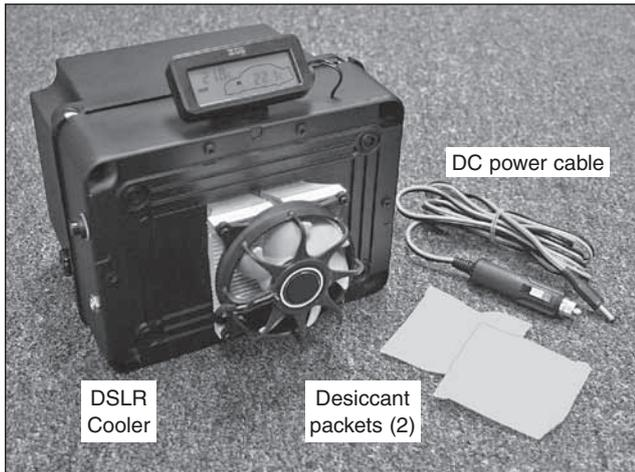

Figure 1. The DSLR Cooler comes with a DC power cable and two desiccant packets.
First, verify that all the included components shown in **Figure 1** are present and intact. If anything is missing or damaged, please call Orion Customer Service at (800) 676-1343.